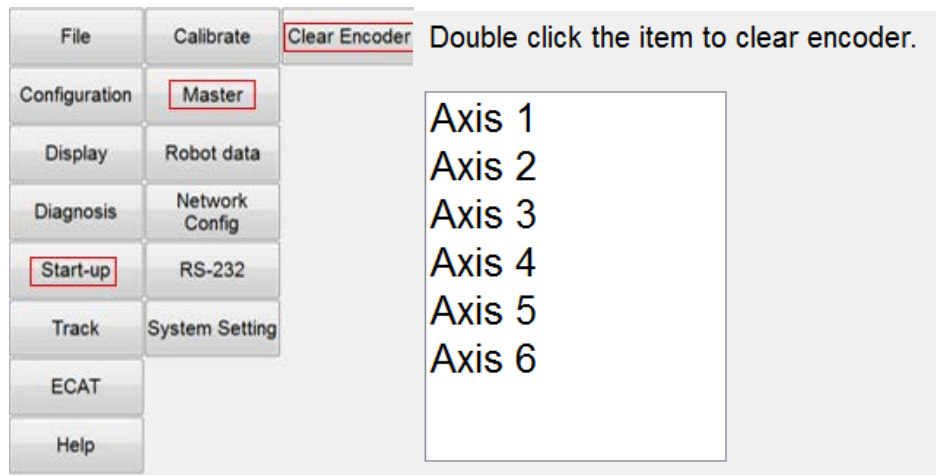

Figure 4-8 Clear encoder by HRSS
- Step3. Click Main Menu>>Start-up>>Master>>Clear Encoder. (As shown in Figure 4-8)
- Step4. Double click the axis to clear encoder. (As shown in Figure 4-8)